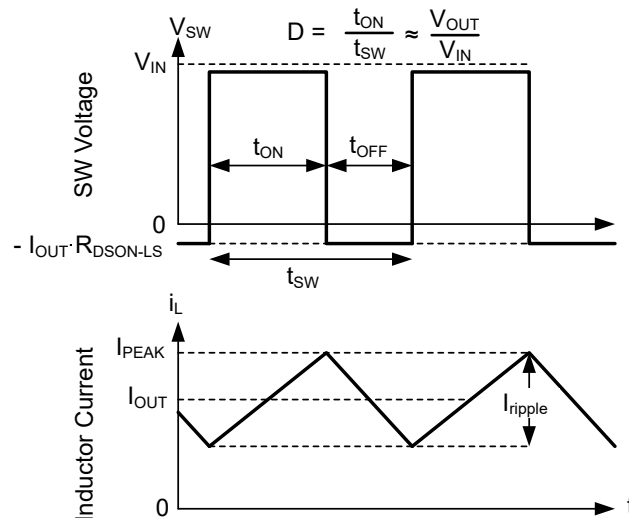

図 7-15. SW Voltage and Inductor Current Waveforms in Continuous Conduction Mode (CCM)
The following operating description of the device refers to セクション 7.2 and to the waveforms in 図 7-15. In CCM, the device supplies a regulated output voltage by turning on the internal high-side (HS) and low-side (LS) switches with varying duty cycle (D). During the HS switch on time, the SW pin voltage, V_{SW} , swings up to approximately V_{IN} , and the inductor current, i_L , increases with a linear slope. The HS switch is turned off by the control logic. During the HS switch off time, t_{OFF} , the LS switch is turned on. Inductor current discharges through the LS switch, which forces the V_{SW} to swing below ground by the voltage drop across the LS switch. The converter loop adjusts the duty cycle to maintain a constant output voltage. D is defined by the on time of the HS switch over the switching period: